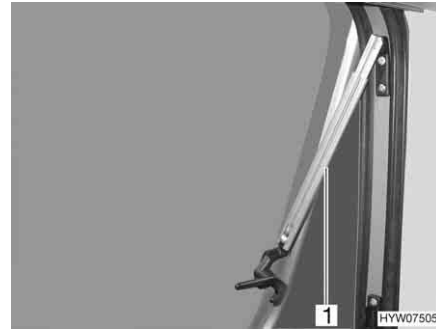

Fig. 74 Hinged window with automatic hinges
- Open the hinged window until the required locking position is reached; the automatic hinge (Fig. 74,1) automatically locks in place.